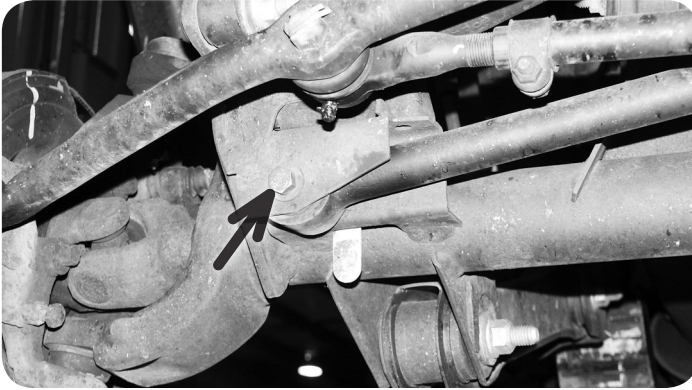

Figure 1
2. Remove the bolt mounting the front track bar to the passenger's side of the axle **Figure 1**. Save track bar bolt and nut tab. Allow the track bar to hang free.